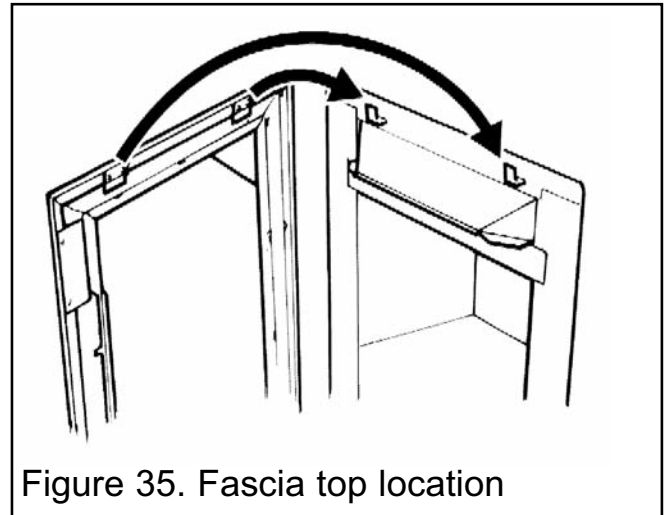

Figure 35. Fascia top location
1. Place the fascia against the fireplace front surface so that the two retaining plates at the back of the fascia are directly above the two upper retaining brackets at the top of the convection box. Lower the fascia unit making sure that the retaining plates locate fully over the brackets on the convection box (See figure 35).